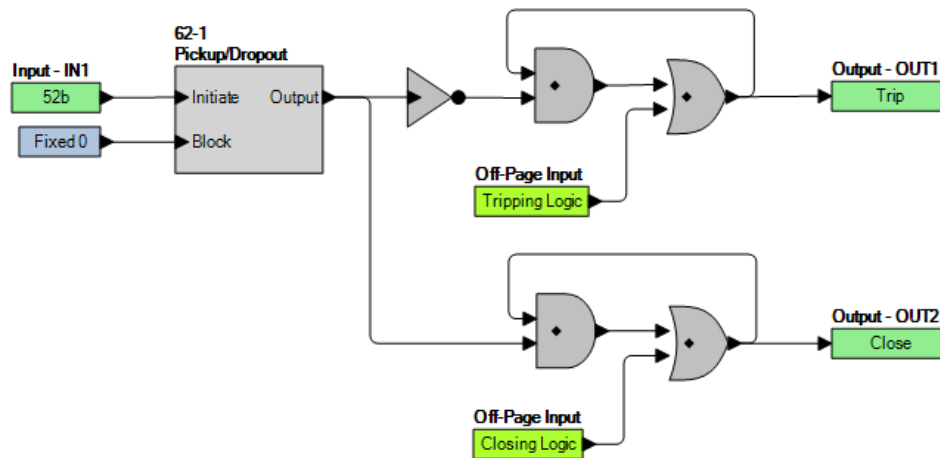

Figure 4-6. Contact Output Seal-In Logic Diagram
To prevent the output relay contacts from opening prematurely, a hold timer (200 to 2,000 ms) can be set with *BESTCOMSPi*us. If the protection engineer desires seal-in logic with feedback from the breaker position logic, he/she can provide this logic by modifying the logic for the tripping output. To do this, use one of the general purpose timers (62) and set it for Pickup/Dropout mode. Set the timer logic so that it is initiated by the breaker position input and set the timer for two cycles pickup and two cycles dropout. The same can be done for the closing output. Figure 4-6 provides a seal-in logic diagram.